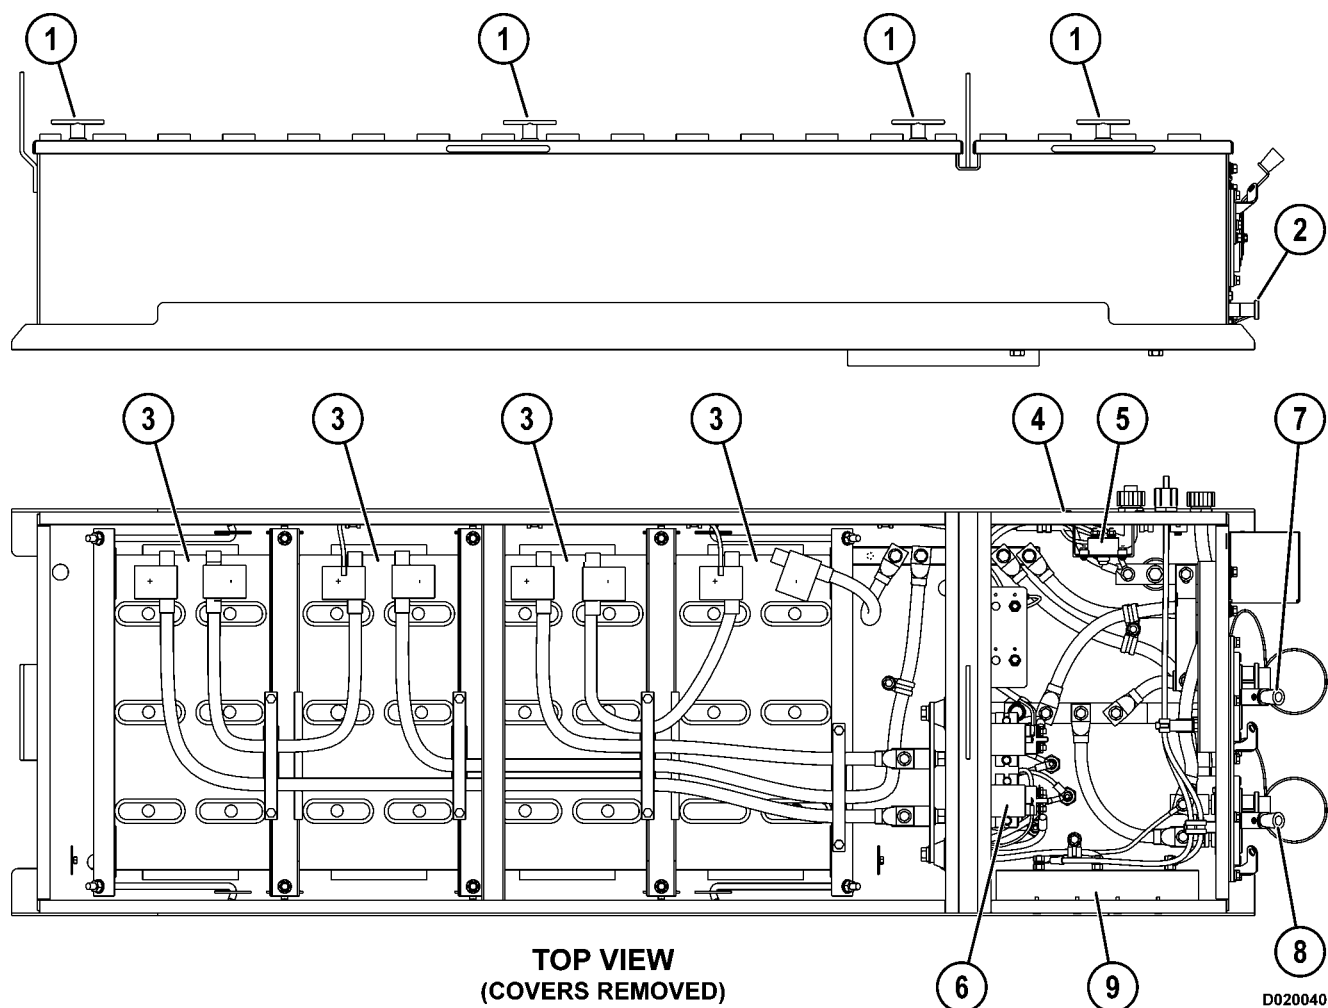

FIGURE 2-1. BATTERY BOX COMPONENTS
Four type 8D batteries (3, Figure 2-1) for the 24VDC engine start circuit are located in the battery box in the center of the front platform.
Battery disconnect switches provide a convenient method of disconnecting the truck batteries from the truck electrical circuits without having to remove any battery cables. Starter disconnect switch (7, Figure 2-1) opens the starter battery circuit only, preventing engine startup while still allowing battery power to the 24VDC control system circuits. Master disconnect switch (8) disconnects the 24VDC system batteries.
The converter is powered by the starter circuit batteries. Converter output circuits are protected by CB101, a 50 amp circuit breaker (5, Figure 2-1) located inside the battery control box.